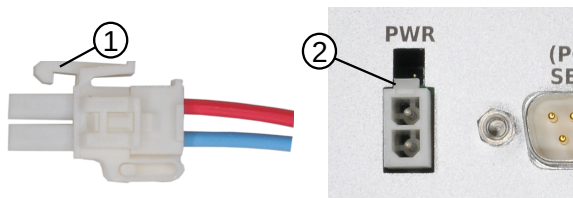
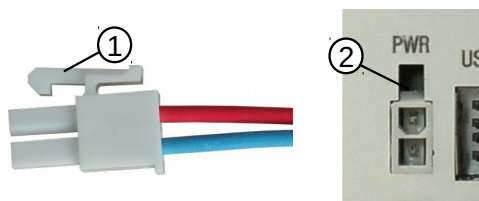

Figure 2.12: Current power solution for all models. Left: The power connector on a cable. Right: Power connector on Nesis back.
Figure 2.13: Older solution for Nesis III 8.4" models. Left: The power connector on a cable. Right: Power connector on Nesis back.
The supplied power cable have two unterminated wires. The red wire must be connected to the power (+12V or +24V) terminal. The blue wire connects to the ground terminal. The other side of the power cable has a plastic connector. This connector has a hook next to the red cable. Insert the connector into Nesis at the back. The notch and the hook must match – they prevent wrong cable orientation, see Figures 2.12 and 2.13.
Please note that two different power cable solutions are used for Nesis III 8.4” models. Displays delivered until mid Summer 2025 are shown in Figure 2.13 while later models are using very similar solution shown in Figure 2.12.
The cable side of actively used power connector variant – ① in Figure 2.12 consists of the following parts:
The cable side of older power connector variant – ① in Figure 2.13 consists of the following parts: